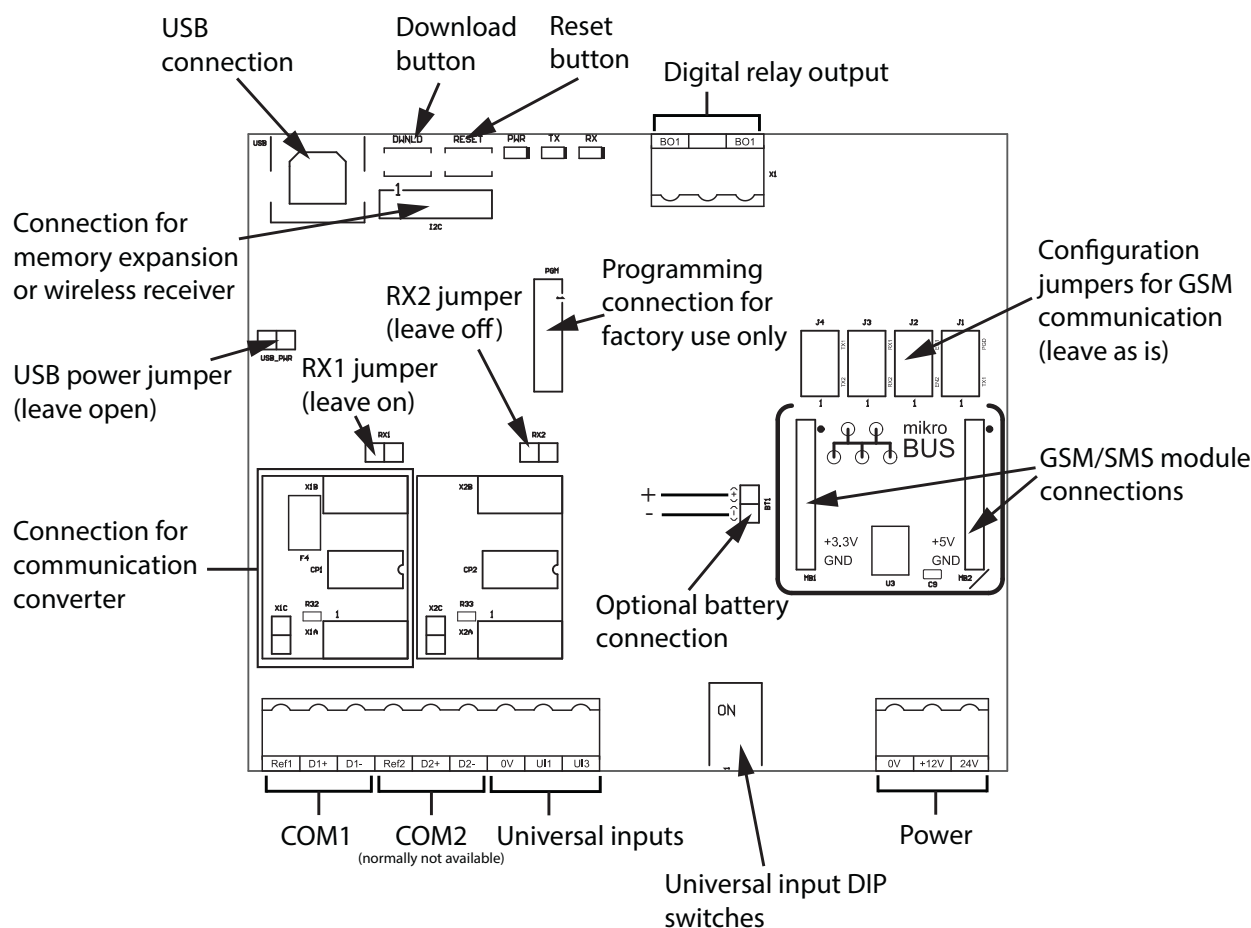

Figure 4 Board connections
By default, the field bus communication terminal (labeled COM1 in Figure 4) is configured as RS-485 through a factory-installed module. It can be changed to RS-232 or optically isolated RS-485 by installing the OpenBAS-ACC-RS232 or OpenBAS-ACC-RS485 converter.
Connect the memory expansion card or OpenBAS-HV-RF433R to the I2C connector shown in Figure 4.
The full speed USB 2.0 connection is shown in Figure 4. Connect a computer to this port in order to configure the controller.
The OpenBAS-NWK-NXSMS has connections for an optional battery, shown in Figure 4. Since the OpenBAS-NWK-NXSMS is normally configured as a slave, it receives the time from the master, so it does not require a battery. Connect a battery if the controller is configured as a master or is used as a standalone controller. The Mircom part number for the battery is BT-025.
6. Connect the new battery to the connection shown in Figure 4. The battery wire can be connected only one way.